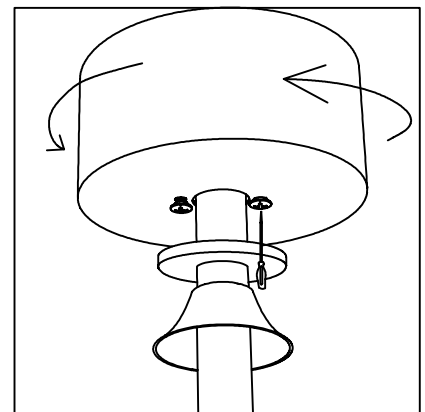

Figure 6.2
- Rotate the canopy upwards towards the screws on the hanger and tighten the screws. (Figure 6.2)